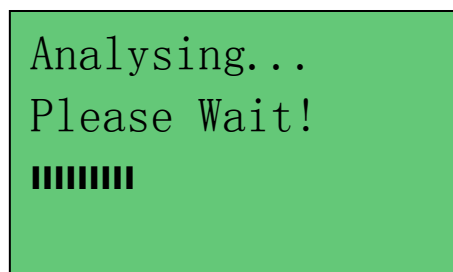

Figure 22
11. Once the CCA rating of the battery is confirmed, press  key will start the testing process. Refer to the display below (Fig. 22).